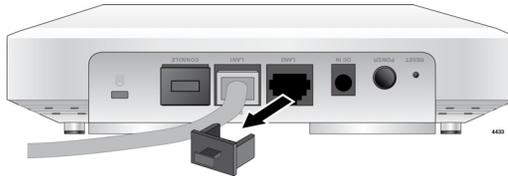

Figure 12. Removing Dust Plug from LAN2 Port
- a. Remove the dust plug on the LAN2 port. Refer to Figure 12.